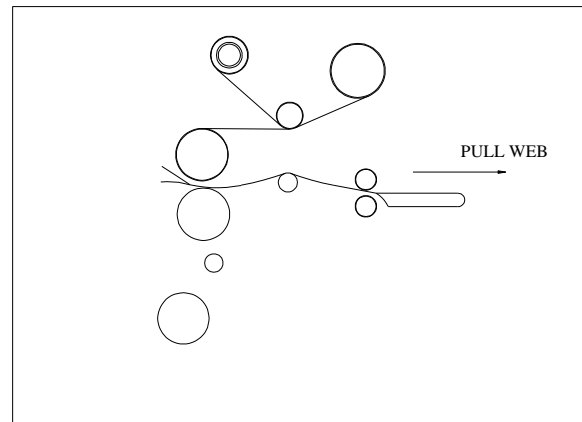

Fig.14
6. Carefully grab hold of the web (top and bottom film), from the back operating position and pull towards you (Fig. 14).